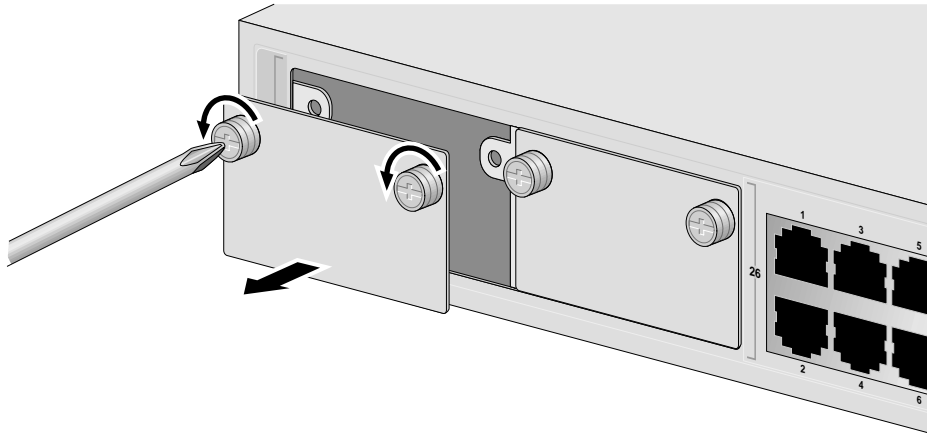

Figure 27 Removing the Expansion Slot Faceplate
4. To remove the expansion slot faceplate, use a Phillips screwdriver to carefully loosen the installation screws found on the left and right sides of the faceplate, as displayed in Figure 27.